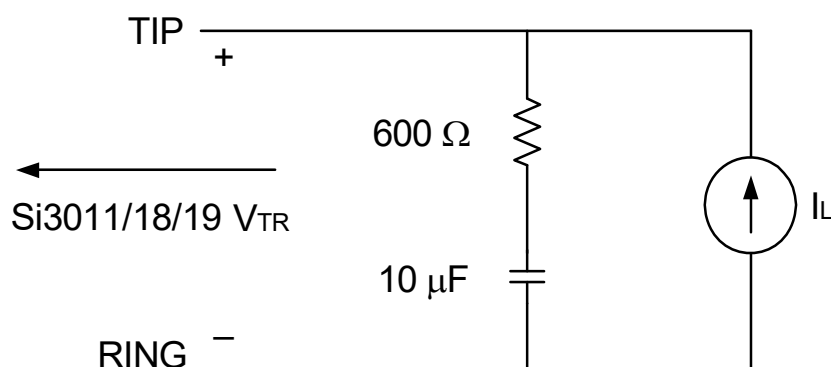

**Figure 1. Test Circuit for Loop Characteristics**
( $V_D = 3.0$  to  $3.6$  V,  $T_A = 0$  to  $70$  °C, see Figure 1 on page 6)
1. Measured at TIP and RING with 600  $\Omega$  termination at 1 kHz, as shown in Figure 1 on page 6.
1. Measured at TIP and RING with 600 Ω termination at 1 kHz, as shown in Figure 1 on page 6.